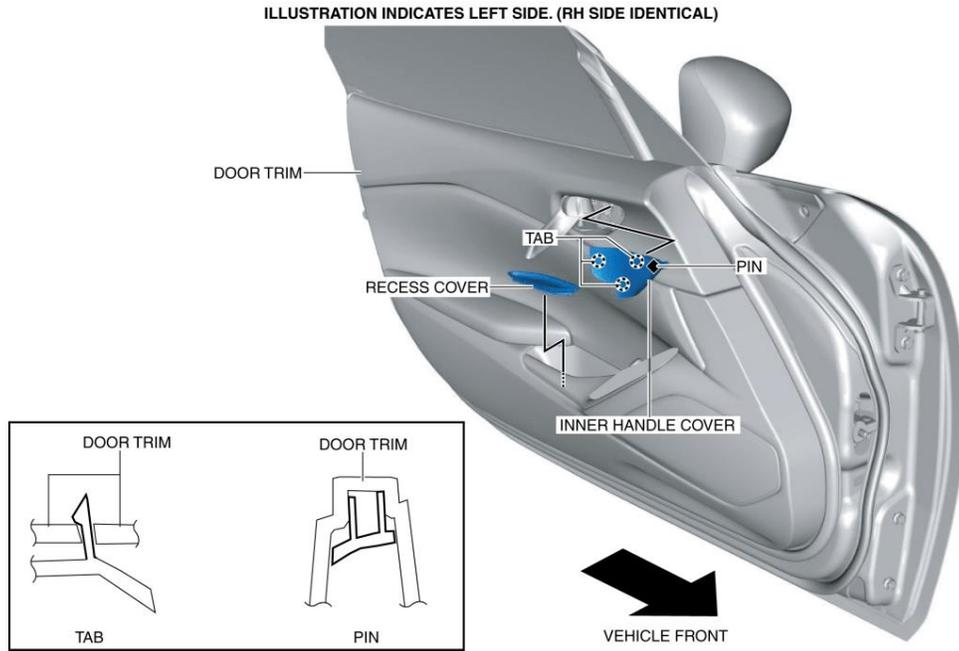

Figure 1
3. Remove the inner handle cover as shown in *Figure 1* while also detaching the tabs and pin.